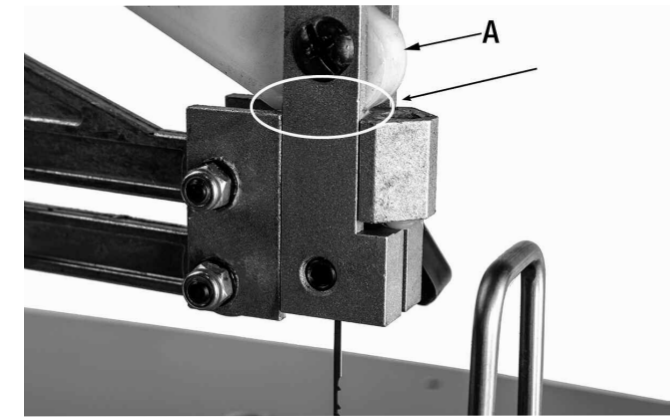

FIGURE 18
Regularly applying a small amount of white grease or petroleum jelly to the friction point of the blade tension lever (A) Fig.18 will allow for smoother operation, and help to extend the life of the lever. Re-apply after every 10-15 hours of use, or as needed depending on the amount of use.